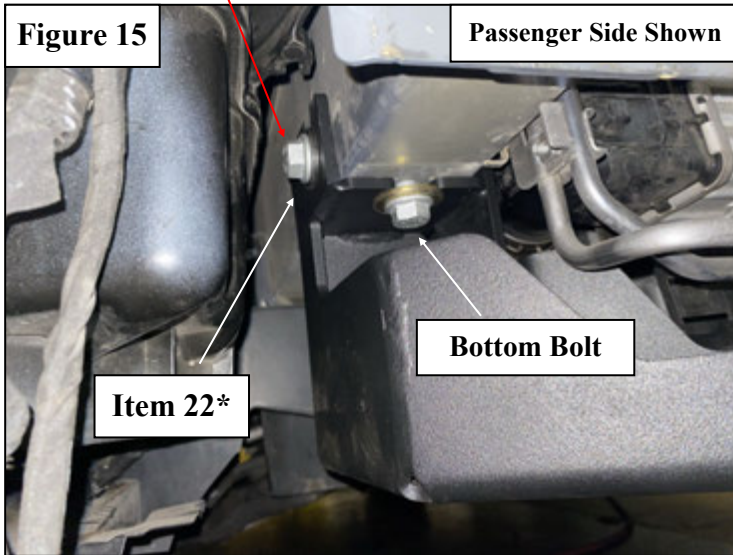

Figure 16
21. Using the OE hardware and the hardware provided (**Item 14-15**) loosely attach the Pro-Series Mid Width Front Bumper (**Item 1**) on the front of the frame. See **Figure 16 & 17** for reference.